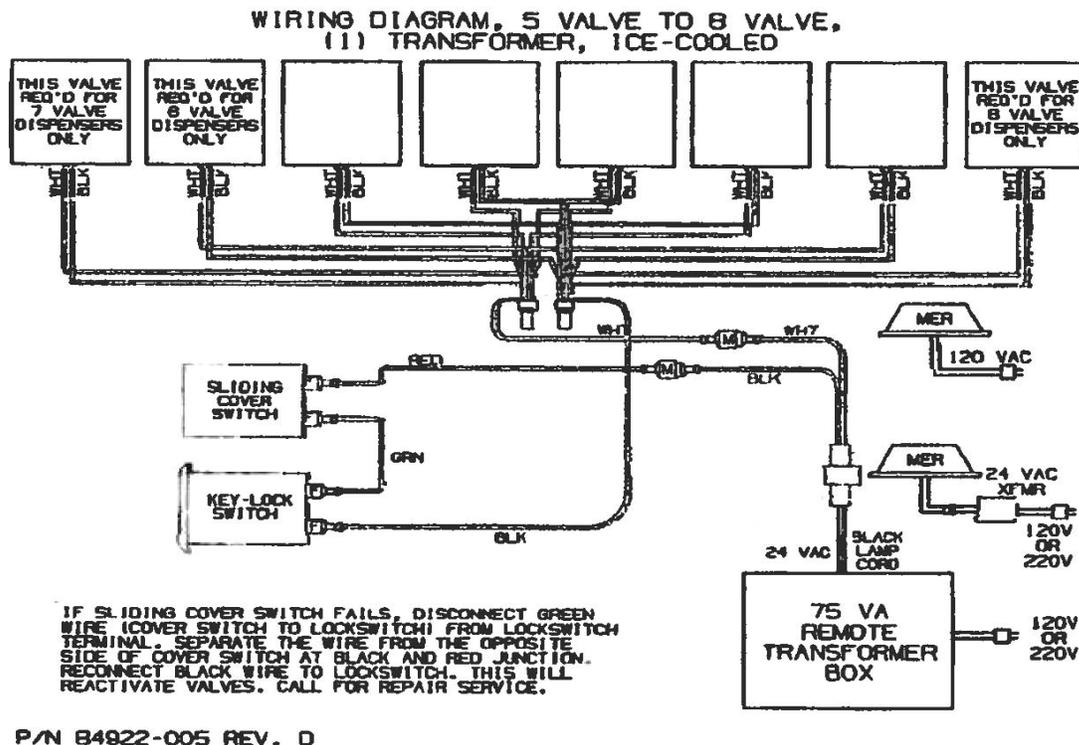

Figure 1
3. Connect the 75VA transformer to a 120VAC power source. Turn the keylock to the ON position. Check that the valves operate properly. If the valves fail to operate, use wiring diagram, Figure 1, to locate the problem. If the problem cannot be found, call Customer Service.
4. Connect the 75VA transformer to a 120VAC power source. Turn keylock to the ON position. Check that the valves operate properly. If the valves fail to operate, use wiring diagram, Figure 1, to locate the problem. If the problem cannot be found, call Customer Service.
6. Attach the transformer output cord to the transformer. Connect the 75VA transformer to a 120VAC power source. Turn the keylock to the ON position and check valve operation. If the valves fail to operate use wiring diagram, Figure 1, to locate the problem. If the problem cannot be found, call Customer Service.